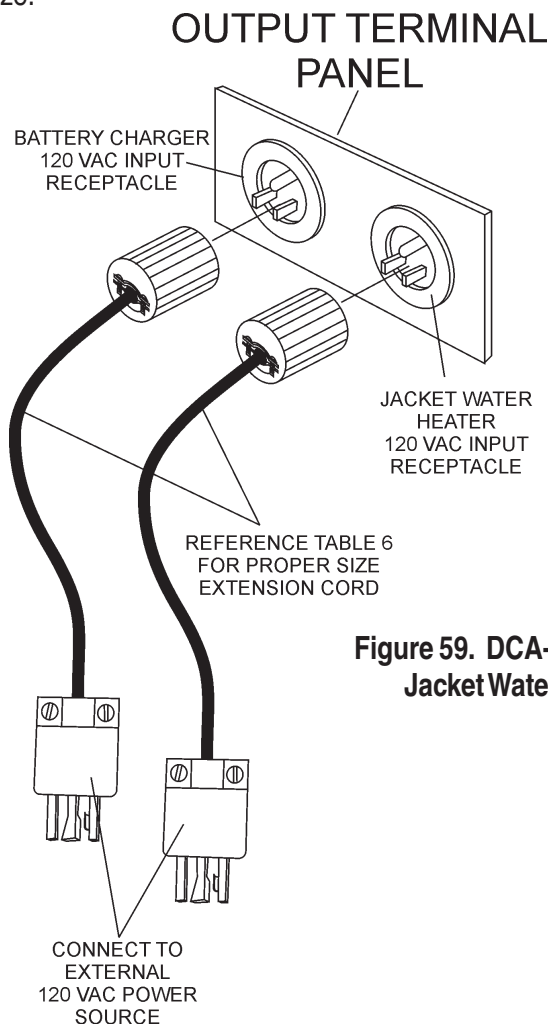

Figure 59. DCA-220SSJ/SSJU Battery Charger & Jacket Water Heater Power Connections
These receptacles will **ONLY** function when commercial power has been supplied to them (Figure 59). To apply commercial power to these receptacles, a power cord of adequate size will be required (See Table 6).
12. **Lug Nuts** - Used to secure the wheel to the wheel hub. Always use a torque wrench to tighten down the lug nuts. See Table 16 and Figure 59 for lug nut tightening and sequence.
Figure 59 displays the major hydraulic surge brake components that will require inspection and maintenance. Please inspect these components as required using steps 1 through 8 and Table 15 as listed below: